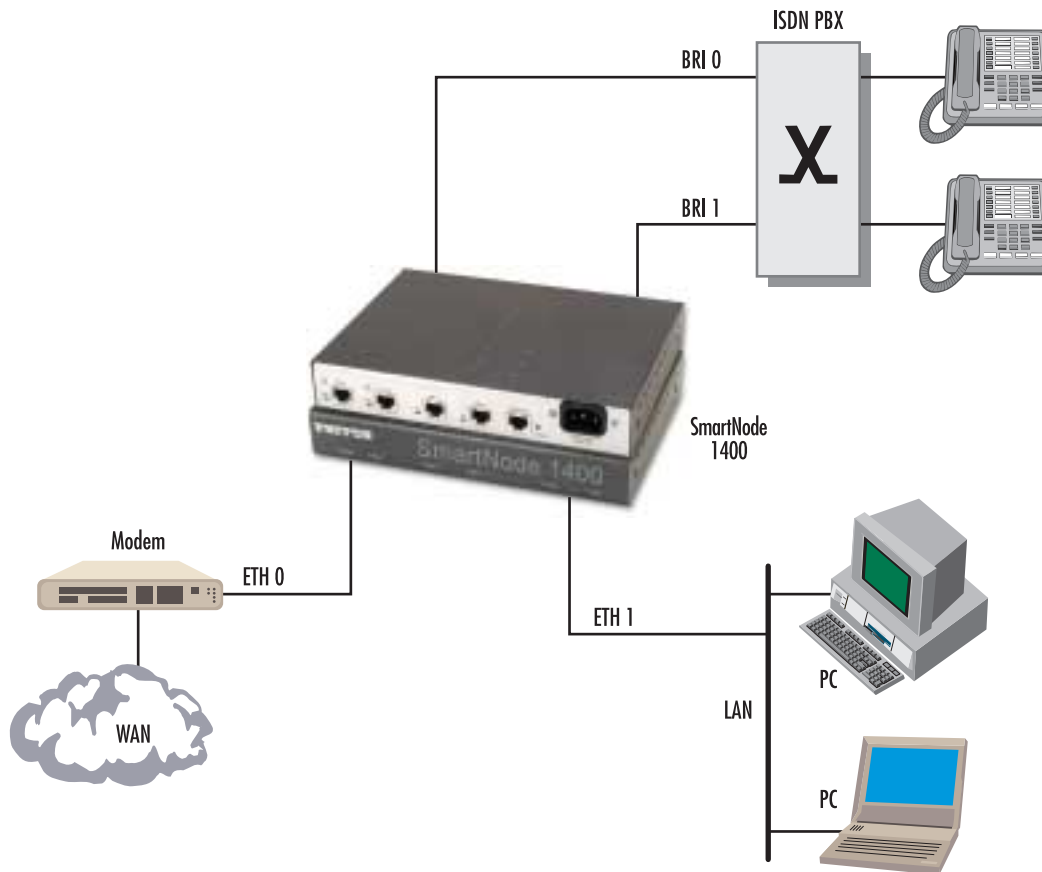

Figure 29. SmartNode 1400 attached to PBX via both ISDN BRIs in an SME environment
The SmartNode 1400 in figure 29 is set up as a voice gateway and IP router in an SME situation. Both BRI ports are attached to a local PBX, offering up to four simultaneous voice channels to the IP access network that is connected to the Ethernet port ETH 0.
- Figure 29 on page 50